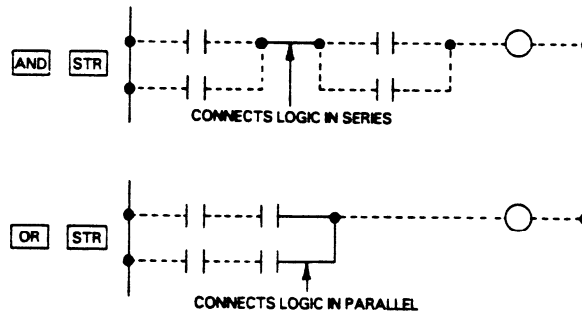

Figure 5-7. AND STR and OR STR Connections
Two very useful functions are programmed using a **2-key** sequence, the AND STR and the OR STR. The AND STR provides a common series connection between a block of logic and the OR STR provides a common parallel connection for a block of logic. These instructions provide the connecting links not allowed with any of the previously mentioned instructions. The logic used with this type of operation is referred to as a push-down stack. The push-down stack can accommodate up to eight levels (groups) of logic. A push-down stack can be thought of as a temporary storage **area** to allow the combining of elements in series (AND) or parallel (OR) connections. **Figure 5.7** illustrates the use of these functions.